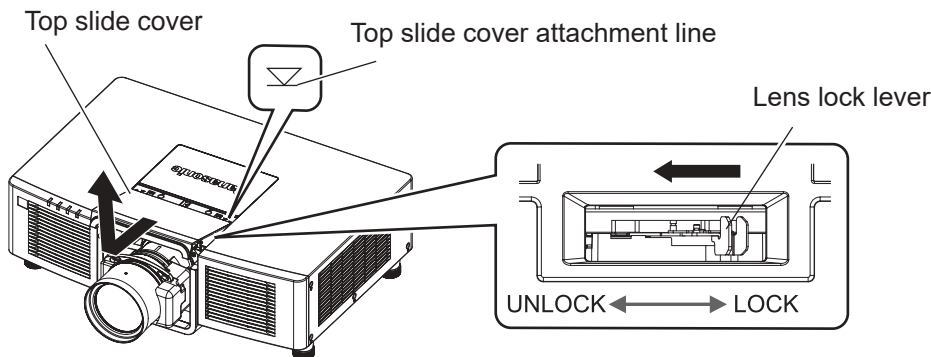

Fig. 3
**2) Remove the top slide cover. (Fig. 3)**
**5) Attach the top slide cover. (Fig. 3)**